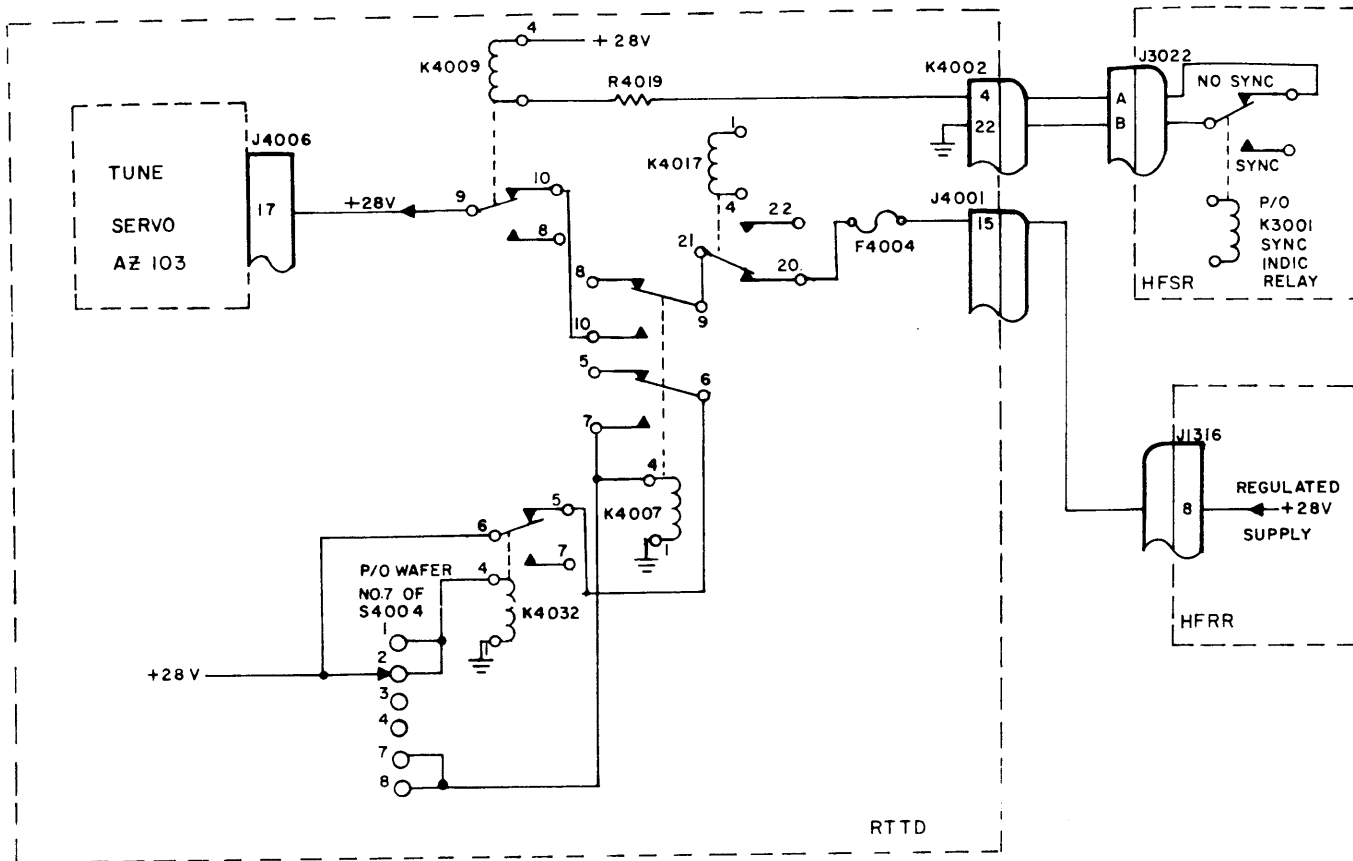

Figure 4-8. Operate Path of Tune Servo AZ103, Simplified Schematic
h. SERVO TUNING ACTION. - There are three distinct stages of servo tuning action: (1) TUNE servo AZ103 of the RTTD is disabled until the BAND switch of Continuous RF Tuner HFRR is properly positioned; (2) motor B1002 of the HFRR is energized and the BAND switch is positioned in accordance with tuning information received; (3) TUNE servo AZ103 is then energized and frequency search takes place.
(1) DISABLING TUNE SERVO AZ103 (Refer to figure 4-8). - As the wiper of Master Decoder switch S4004 in Receiver Decoder RTTD makes connection with contacts 1 and 2, relay K4032 of the RTTD energizes and disconnects +28 vdc from contact 6 of relay K4007 thus opening the locking path of K4007. (This is in the event that K4007 is still energized from a previous tuning sequence). De-energized relay K4007 opens contacts 9 and 10 and removes regulated +28 vdc supplied from Continuous RF Tuner HFRR.
(3) ENERGIZING TUNE SERVO OF RTTD (Refer to Figures 4-8 and 4-10). - As the wiper of Master Decoder switch S4004 makes connection with contacts 7 and 8, relay K4007 energizes and locks operated by means of its contacts 6 and 7. Closed contacts 9 and 10 of relay K4007 complete the +28 vdc operate path for TUNE servo AZ103 through contacts 9 and 10 of relay K4009. Relay K4009 is held energized by the no-sync condition of relay K3001 of Control Synthesizer and Standard HFSR.